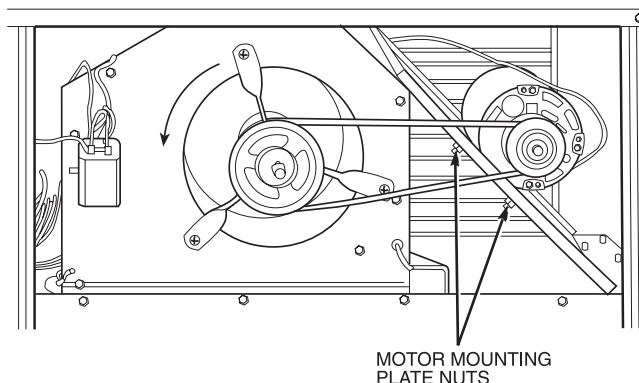

Fig. 33 — Belt Drive Motor Mounting
2. Loosen belt by loosening fan motor mounting nuts. See Fig. 33.